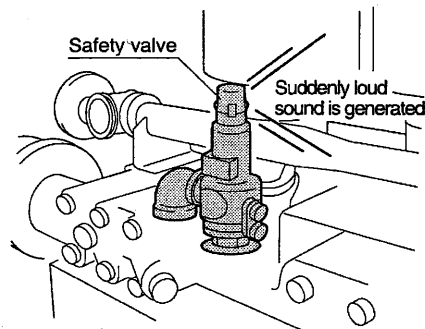

Fig. 6
- * ***If the pressure rises too high, the safety valve functions to generate large sound suddenly. When using the compressor in the room, use the ear plug. (Fig. 6)***